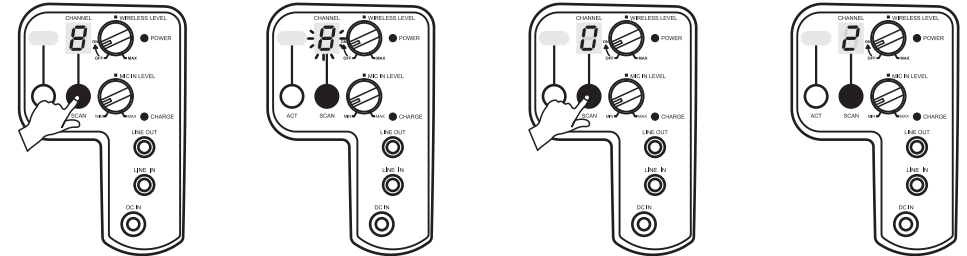

Fig. 2
- Automatic Channel Scan Selection: Press and hold the Channel SCAN button **6** for 1 second to access the SCAN function. Channel indicator blinks and displays current channel. During channel blinking, press and release Channel SCAN button to scan for the best available channel. Once blinking stops, the new channel is saved automatically, See Fig. 2.